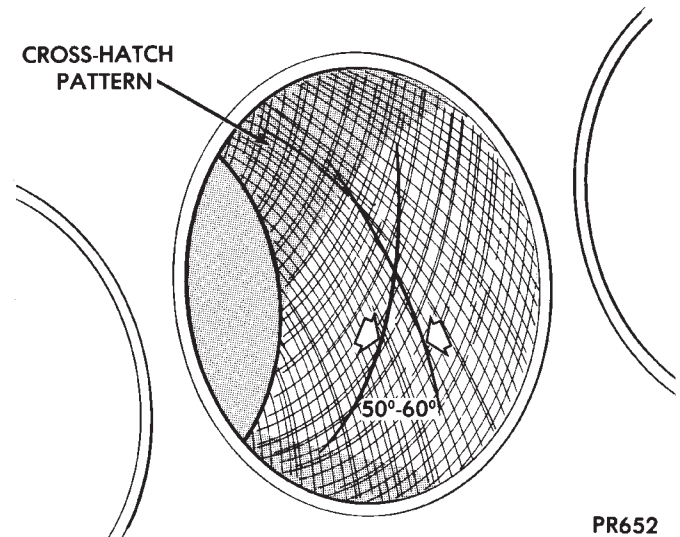

Fig. 2 Cylinder Bore Cross-Hatch Pattern
(1) Used carefully, the cylinder bore resizing hone C-823 equipped with 220 grit stones, is the best tool for this job. In addition to deglazing, it will reduce taper and out-of-round as well as removing light scuffing, scoring or scratches. Usually a few strokes will clean up a bore and maintain the required limits.
(2) Deglazing of the cylinder walls may be done using a cylinder surfacing hone, Tool C-3501, equipped with 280 grit stones, if the cylinder bore is straight and round. 20-60 strokes depending on the bore condition, will be sufficient to provide a satisfactory surface. Inspect cylinder walls after each 20 strokes, using a light honing oil. **Do not use engine or transmission oil, mineral spirits or kerosene.**
(3) Honing should be done by moving the hone up and down fast enough to get a cross-hatch pattern. When hone marks intersect at 50-60 degrees, the cross hatch angle is most satisfactory for proper seating of rings (Fig. 2).